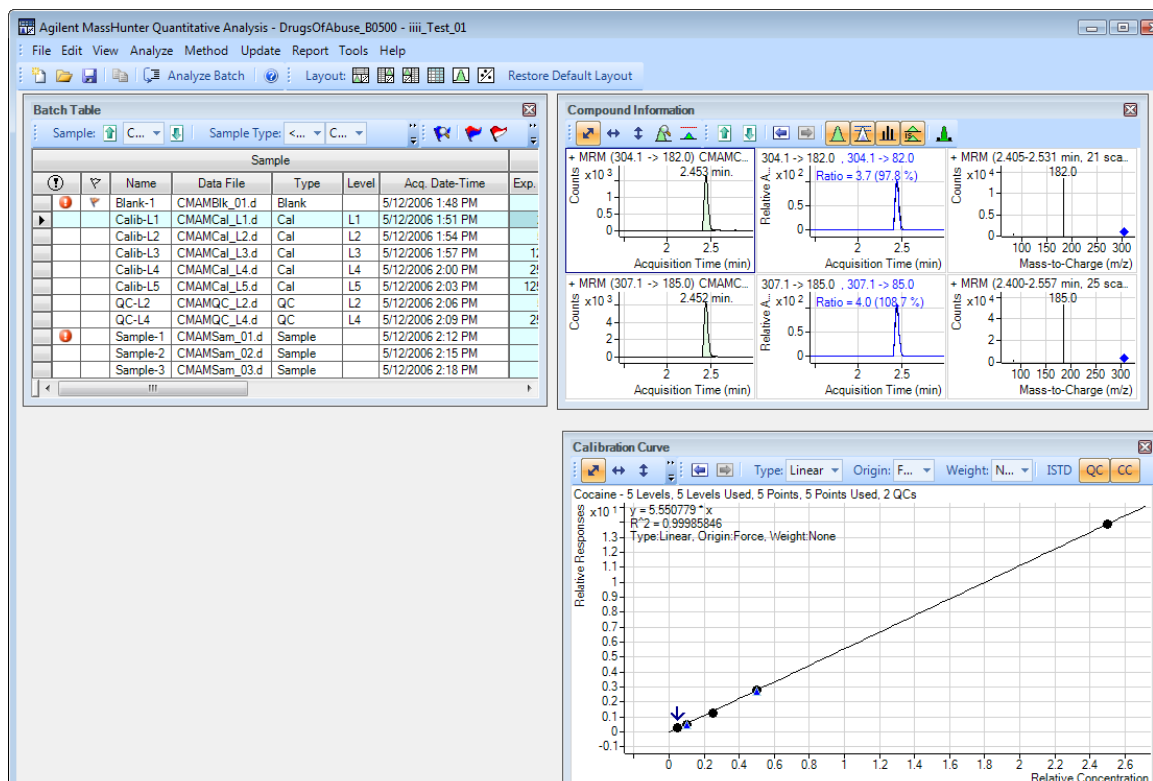

Figure 8. Display with Calibration Curve and Compound Information windows floating
- Step 6 Create the layout as shown in **Figure 8** on page 48:
4 Resize the windows to match the layout in **Figure 8**.